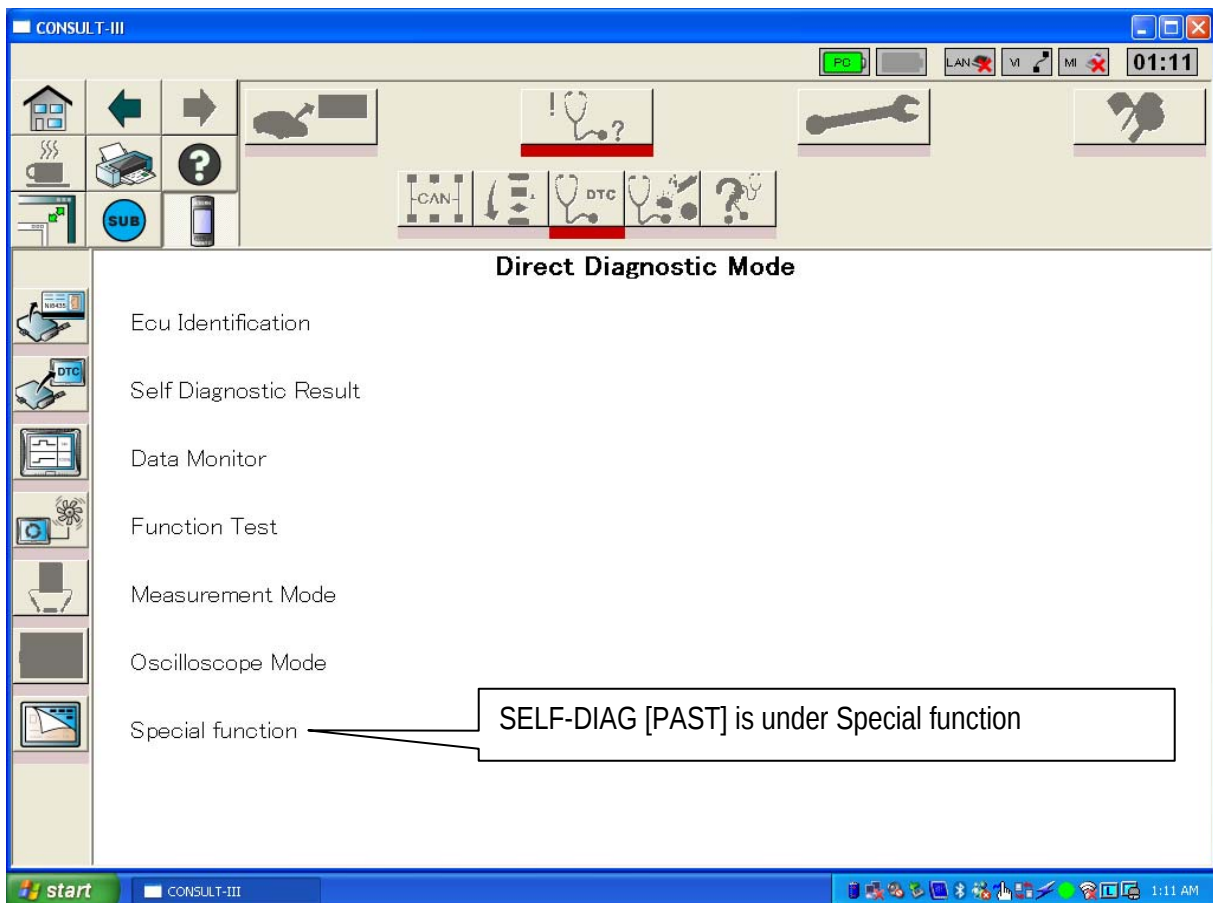

Figure 11
**NOTE:** If using C-III, air bag Self Diagnosis Past is under “Special Function” (see Figure 11).